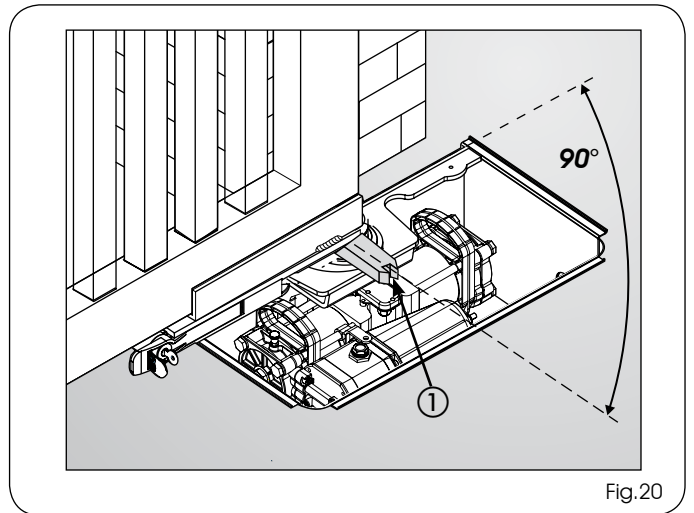

Fig.20
- 12) Take the released gate into open position, making sure that the released part freed from the gate **remains in the gate closed position as shown in Fig.20 ref. ①**.